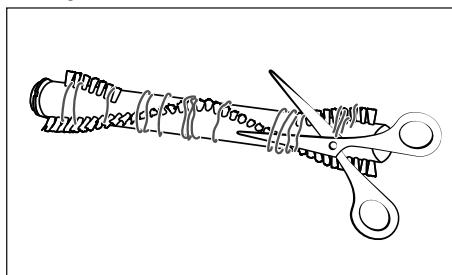

Fig. 26
- 4) Cut threads and hairs along the bristles of the rotary brush ②1 with scissors (see Fig. 26). Remove threads and hair from the rotary brush ②1.